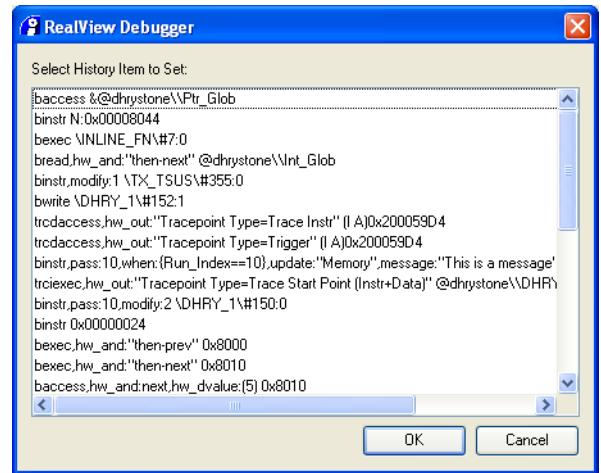

Figure 11-42 Breakpoint history list dialog box
1. Select **Debug → Breakpoints → Set Break/Tracepoint from List → Break/Tracepoint History...** from the Code window main menu to display the breakpoint history list dialog box. Figure 11-42 shows an example: